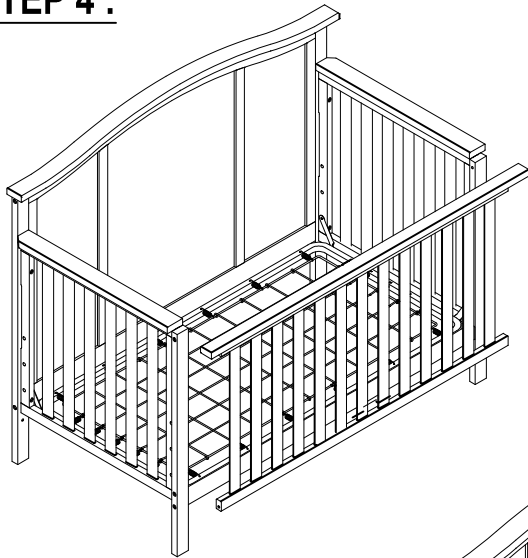

FIG.1 :
Assembly the upper rail of Footboard frame (3) to the Footboard Post (L&R) (4) by Allen bolt (A), Spring washer (C) and Barrel Nut (B) as shown in FIG.1. Tighten all bolts by Allen Key (D).